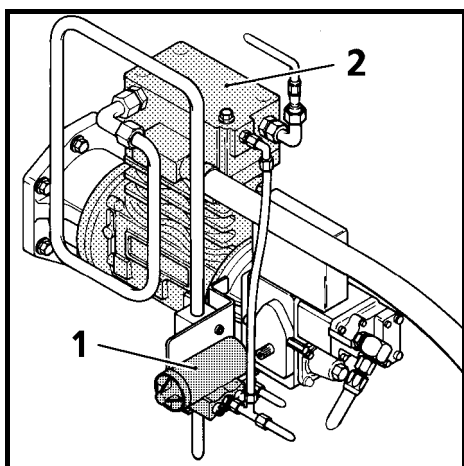

Fig. 2
PRESSURE REGULATOR AND COMPRESSOR (Fig. 2, pos. 1 and 2).